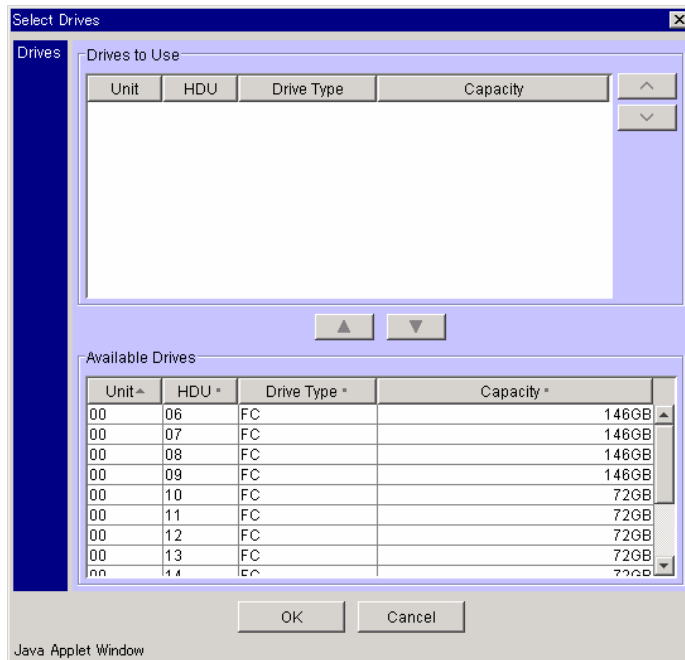

Figure 5.7 Select Drives Dialog Box
The **Select Drives** dialog displays. See Figure 5.7.
- In **Available Drives** list, click the **HDU** number. See Figure 5.7.